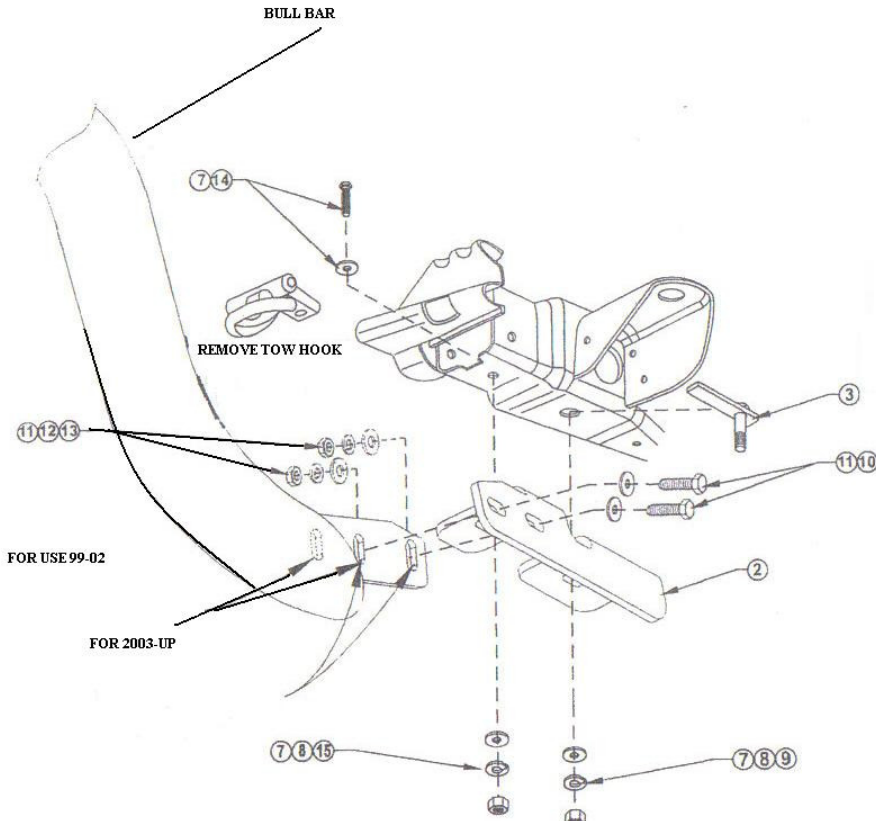

FIGURE 2 PASSENGER SIDE INSTALLATION DRIVER SIDE OPPOSITE
**STEP 3** DETERMINE PASSENGER AND DRIVER BRACKETS. FROM UNDERNEATH VEHICLE, REMOVE TOW HOOKS. INSERT BOLT PLATES THROUGH LARGE HOLES AND M12 X 1.75 X 40MM HEX HEAD BOLTS THROUGH SMALL HOLES IN BOTH BOTTOM FRAME LOCATIONS. SEE FIGURE 2.
**STEP 5** ATTACH BULL BAR TO BRACKETS USING 3/8" FASTENERS AS SHOWN. **NOTE:** 1999-02 MODELS USE FRONT AND MIDDLE HOLES ON THE LOOP MOUNTING BRACKETS. 2003 UP MODELS USE MIDDLE AND REAR HOLES. SEE FIGURE 2.